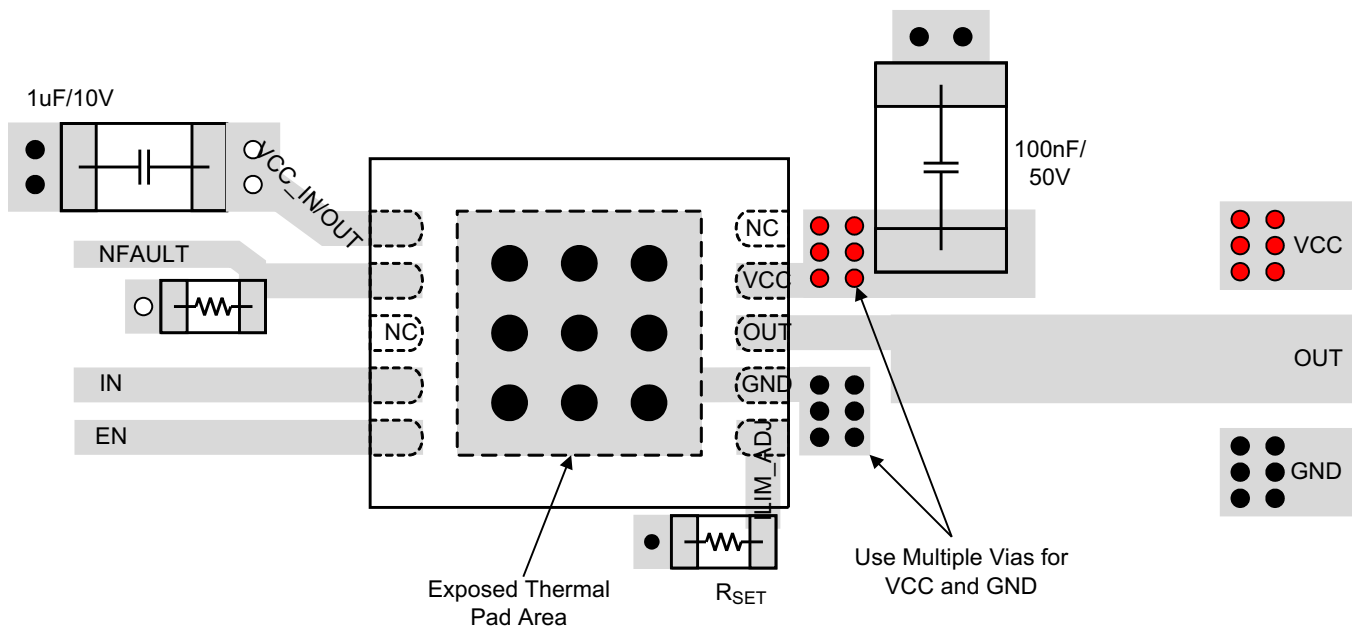

Figure 26. Layout Example
- • The optimum placement of the capacitor is closest to the VCC and GND terminals to reduce supply drops during large supply current loads. See Figure 26 for a PCB layout example.